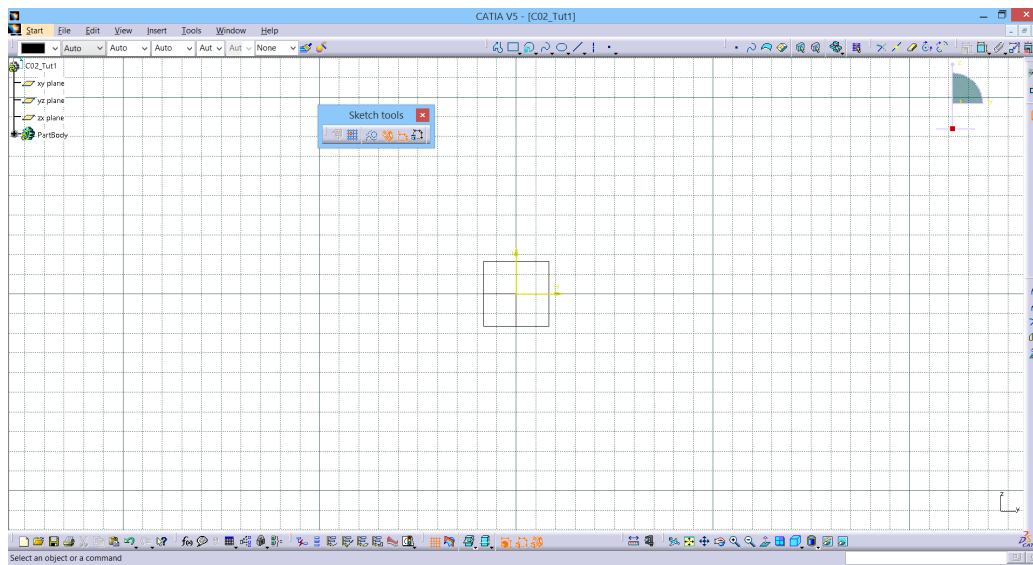

Figure 2-44 The **Sketcher** workbench screen
6. Choose the **Sketch** tool from the **Sketcher** toolbar and then select the **yz plane** from the Specification tree as the sketching plane; the **Sketcher** workbench screen is displayed, as shown in Figure 2-44.